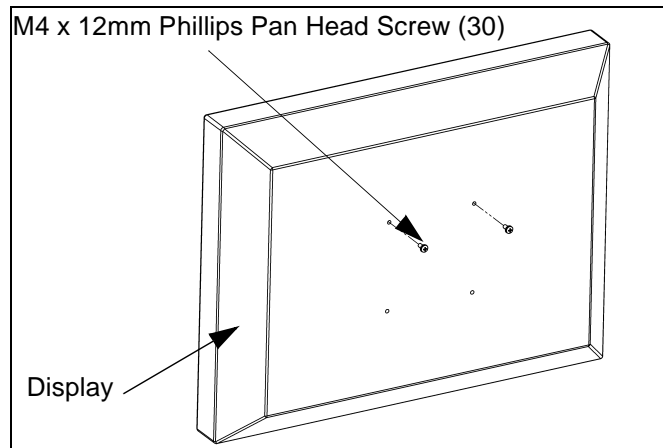

Figure 5: Prepare Display
1. Install two M4 x 12mm Phillips pan head screws (160) into two upper mounting holes in display back. (see Figure 5)